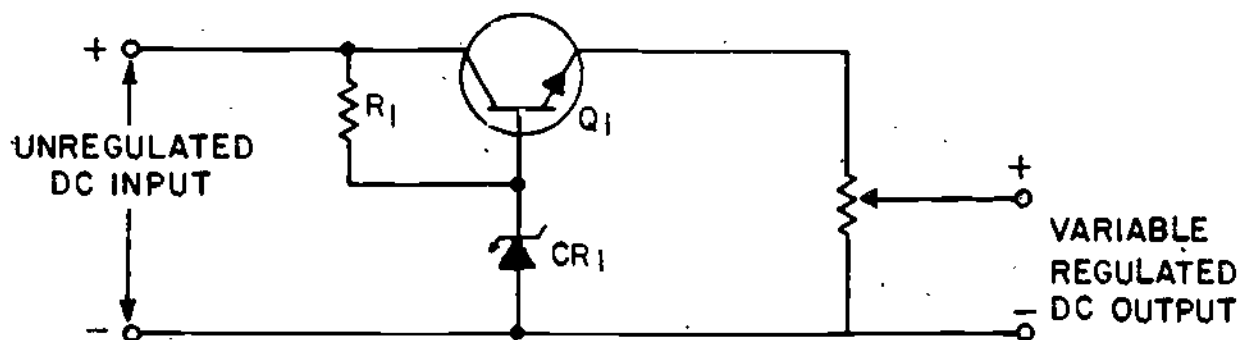

FIGURE 10
18. Study the schematic shown in Figure 10. Notice that a potentiometer is included as part of the circuit.